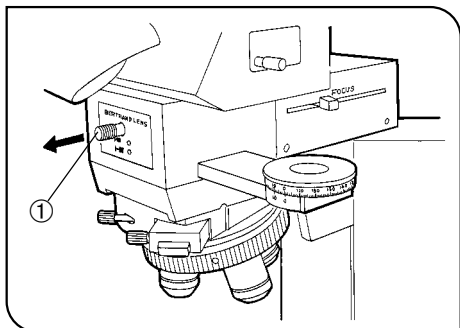

Fig. 23
1. Pull out the Bertrand lens knob ① to the OUT (O) position. (Fig. 23)